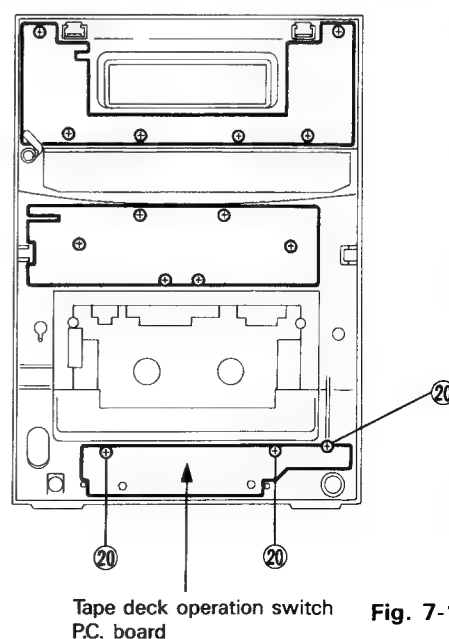

Fig. 7-18
4. Remove the three screws (20) retaining the tape deck operation switch P.C. board (Refer to Fig. 7-18).